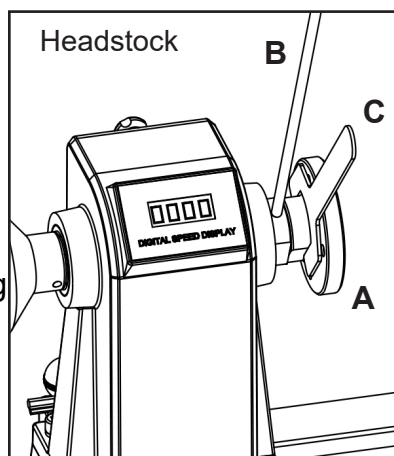

FIG. 4
1. Mount the Faceplate (A) by screwing it clockwise onto the 1" x 8TPI spindle threads.
2. Tighten or loosen the faceplate by using the Knockout Bar (B) to hold the spindle, and Wrench (C) on the rear of the face plate. FIG. 4.